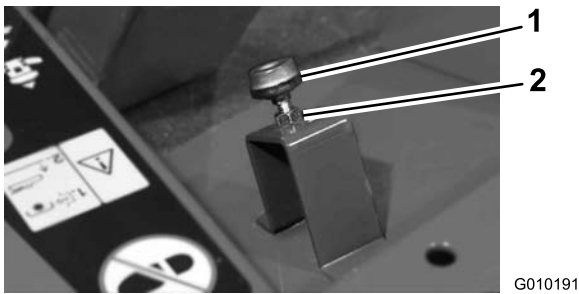

Figure 68
2. Depress the traction pedal until it is at full stroke (Figure 68). The jam nuts may have to be loosened and the stop lowered to attain full stroke.